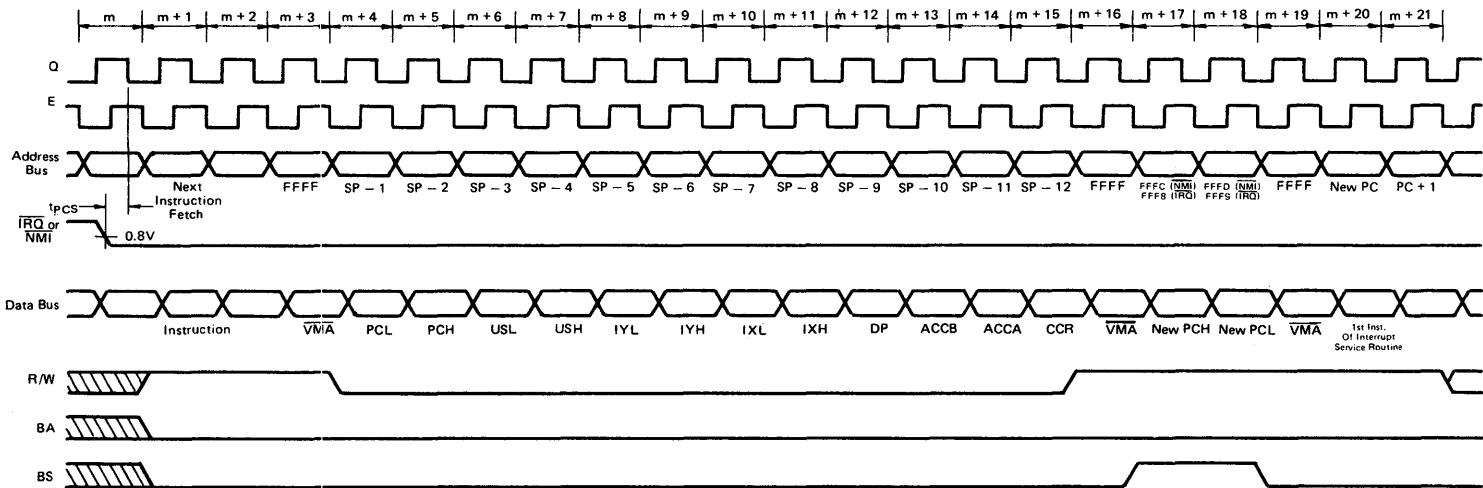

Figure 9 $\overline{\text{IRQ}}$ and $\overline{\text{NMI}}$ Interrupt Timing
A negative edge on this input requests that a nonmaskable interrupt sequence be generated. A non-maskable interrupt cannot be inhibited by the program, and also has a higher priority than FIRQ, IREQ or software interrupts. During recognition of an NMI, the entire machine state is saved on the hardware stack. After reset, an NMI will not be recognized until the first program load of the Hardware Stack Pointer (S). The pulse width of NMI "Low" must be at least one E cycle. If the NMI input does not meet the minimum set up with respect to Q, the interrupt will not be recognized until the next cycle. See Fig. 9.
A “Low” level input on this pin will initiate an interrupt Request sequence provided the mask bit (I) in the CC is clear. Since $\overline{\text{IRQ}}$ stacks the entire machine state it provides a slower response to interrupts than $\overline{\text{FIRQ}}$. $\overline{\text{IRQ}}$ also has a lower priority than $\overline{\text{FIRQ}}$. Again, the interrupt service routine should clear the source of the interrupt before doing an RTI. See Fig. 9.